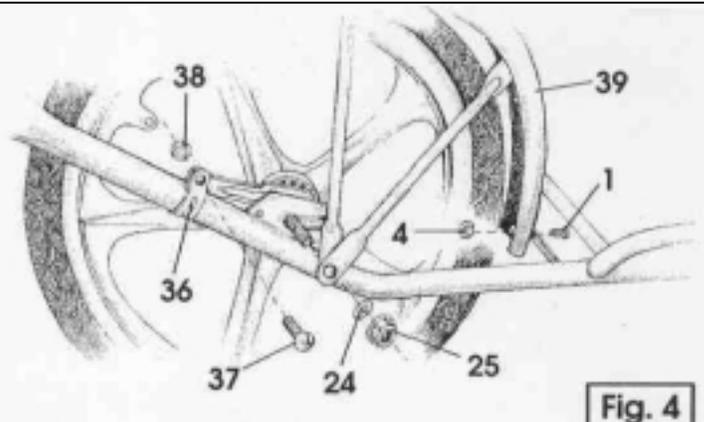

Fig. 4
Install the front fender (39) onto the front wheel axle, making sure the hole in the fender is to the rear of the wheel (see figure 4). Attach the rear of the fender to the frame using screw (1) and nut (4). Install fender braces onto axle. Note: Either the top or bottom brace may be installed first, but do the same for both sides. Install washers (24) and nuts (25), and loosely tighten.
Attach the brake strap (36) to the frame by bending it into a "U" shape and sliding it over the left frame tube, from the bottom up (see figure 4). Align the brake strap around the brake arm and insert screw (37) from the outside through the strap and arm. If necessary, use an awl to align all three holes. Secure with nut (38). Do not tighten until chain is adjusted.